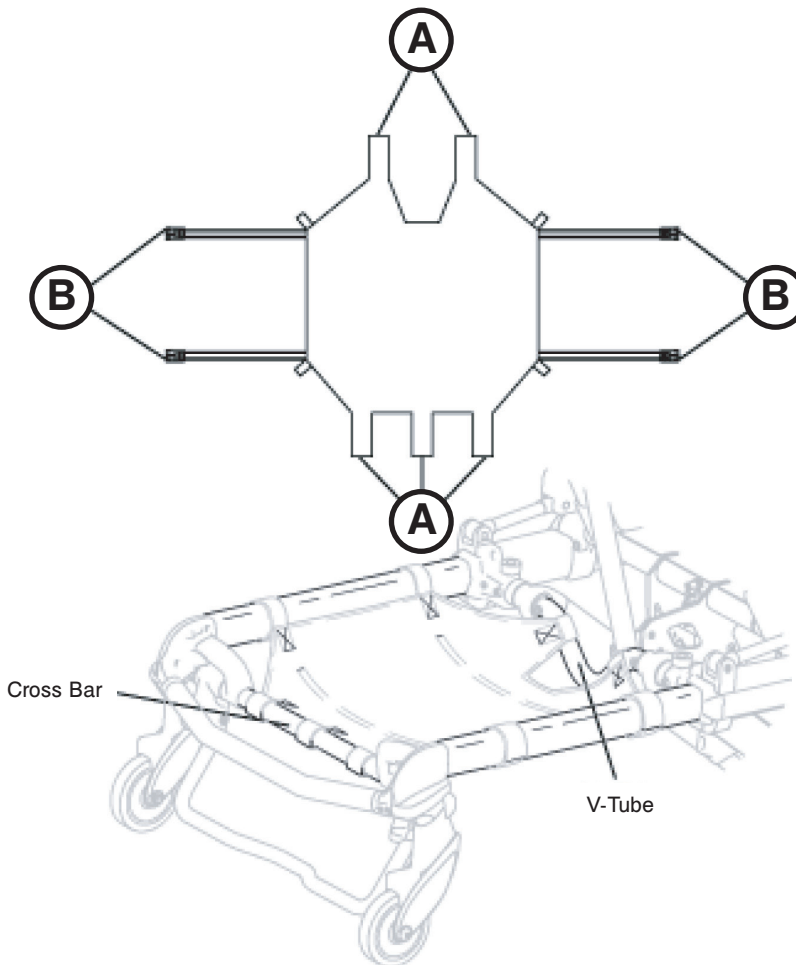

Figure 46: Head End Storage Flat
**To install the optional head end storage flat (see Figure 46):**
1. Install the Velcro® straps (A) near the pneumatic cylinder and around the cross bar of the retractable head section.
2. Buckle the restraint straps (B) around the outer rails of the retractable head section.